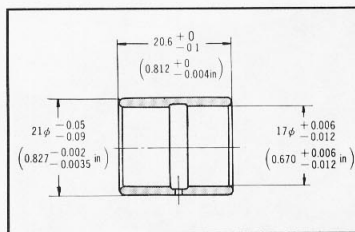

Figure 3-65. Clutch center guide
- (1) Clutch center guide. (Fig. 3-65)